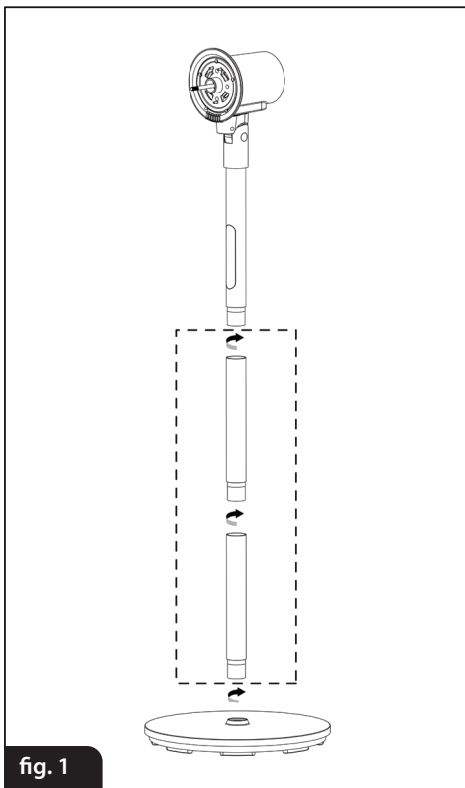

fig. 1
1. Place the fan base (10) on a flat, even and dry surface.
2. Screw one or two extension tubes (9) into the fan base (10) (Fig. 1), depending on the preferred fan height.
3. Then screw the fan head with the control panel (8) to the tube (9) (Fig. 1).